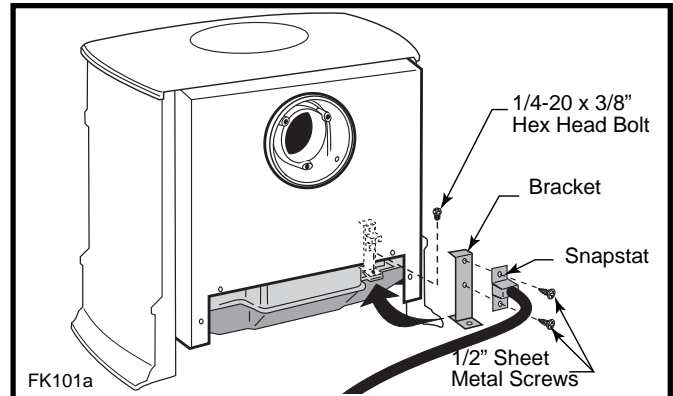

Fig. 11 Snapstat assembly and installation.
2. Locate and remove the 1/4-20 x 3/8" hex head bolt installed in the hole in the right rear ledge of the firebox. (Fig. 11) Use that bolt to secure the Snapstat Bracket to the firebox. The mounting hole is slotted to allow you to adjust the bracket so that its head makes contact with the firebox surface. (Fig. 11)